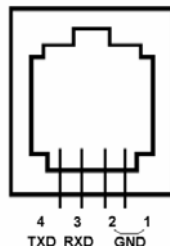

Figure 2. Serial port pin out on an 8408 hand controller
- Serial port: connect the HC to a Computer via a RS232 to 4 pin 4 wire (4P4C) RJ-9 cable (iOptron item #8412). The pin out of the serial port is shown in **Figure 2**.